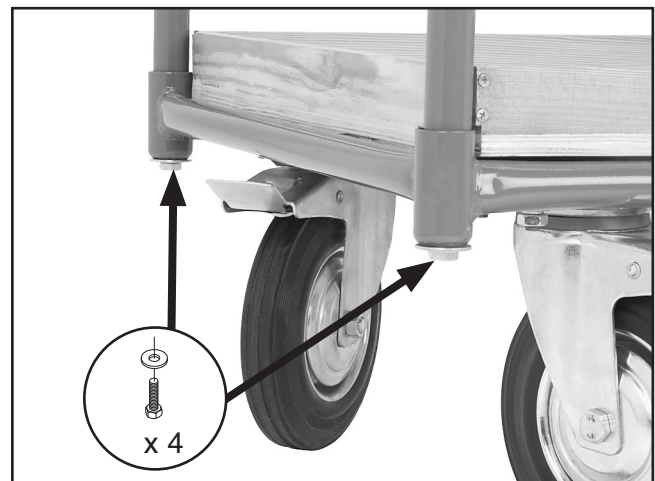

Figure 6. Handles fastened to bottom shelf.
6. Fasten the handles to the bottom shelf with the M12-1.75 x 30 hex bolts and flat washers (see **Figure 6**). Finger tighten the bolts for now.